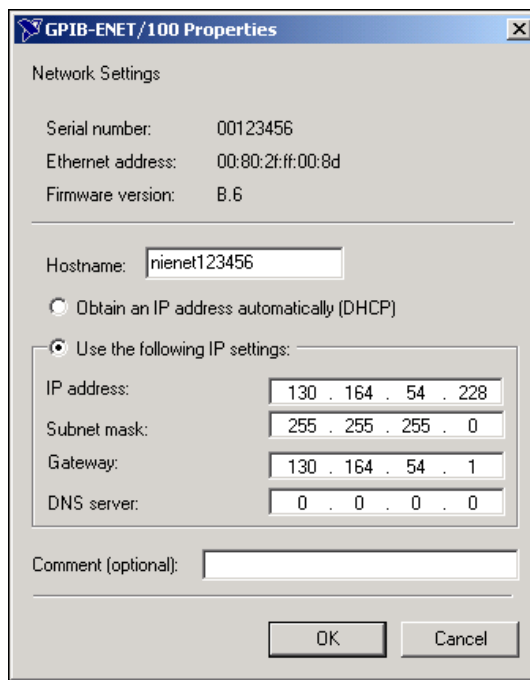

Figure 3-3. Specifying IP Settings
3. If you select **Obtain an IP address automatically (DHCP)**, you do not need to enter any network parameters unless you want to change the hostname of the Ethernet device. If you select **Use the following IP settings**, enter the network parameters you have chosen for the host IP address, subnet mask, gateway IP, and DNS server IP, as in the example shown in Figure 3-3. Refer to the next section, *Static IP Parameters*, for more information.
Note The IP settings in Figure 3-3 are shown only as an example of the format.